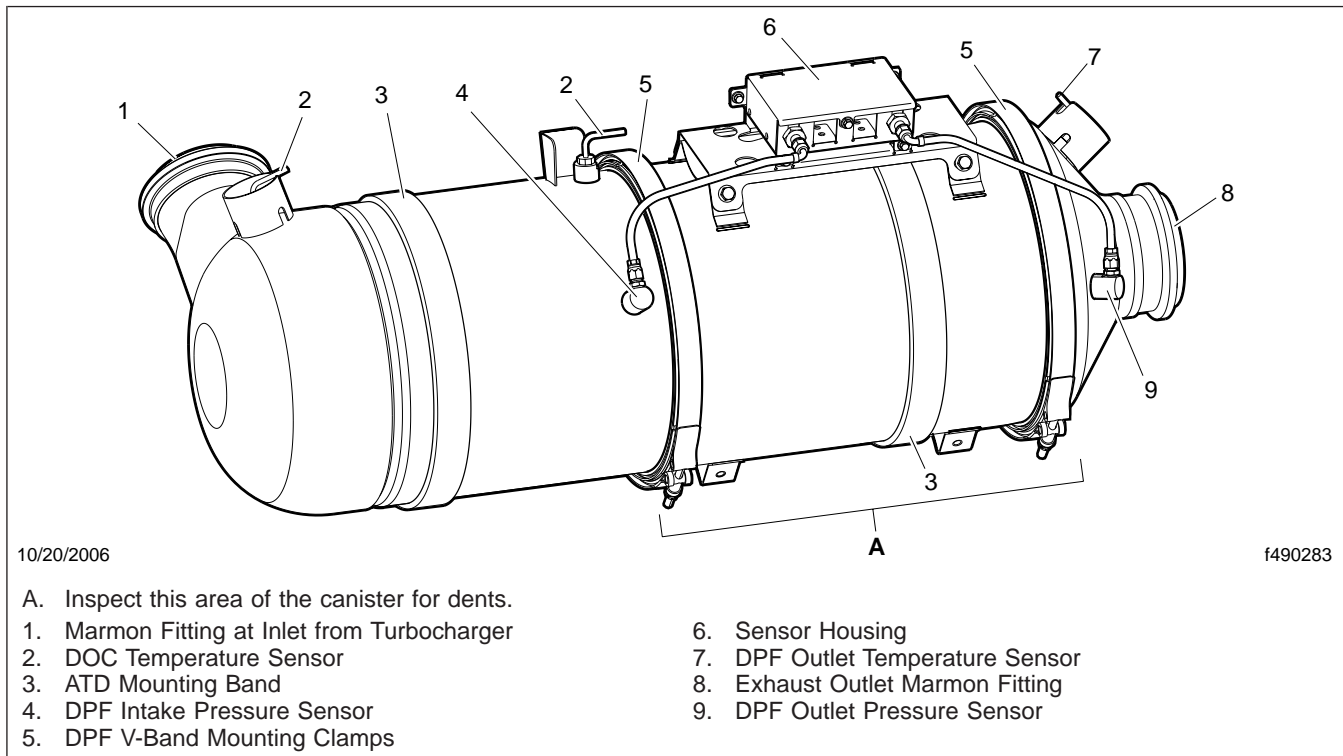

Fig. 3, Typical After-Treatment Device
IMPORTANT: The Environmental Protection Agency's 2007 regulations require lower exhaust emissions, thus requiring new exhaust system components. See Fig. 3. In particular
7. Check the DPF exterior surface for dents or other damage. See Item A of Fig. 3. A dent over 3 inches (76 mm) in diameter and 1/4-inch (6-mm) deep could cause internal damage to the DPF, causing it to malfunction.